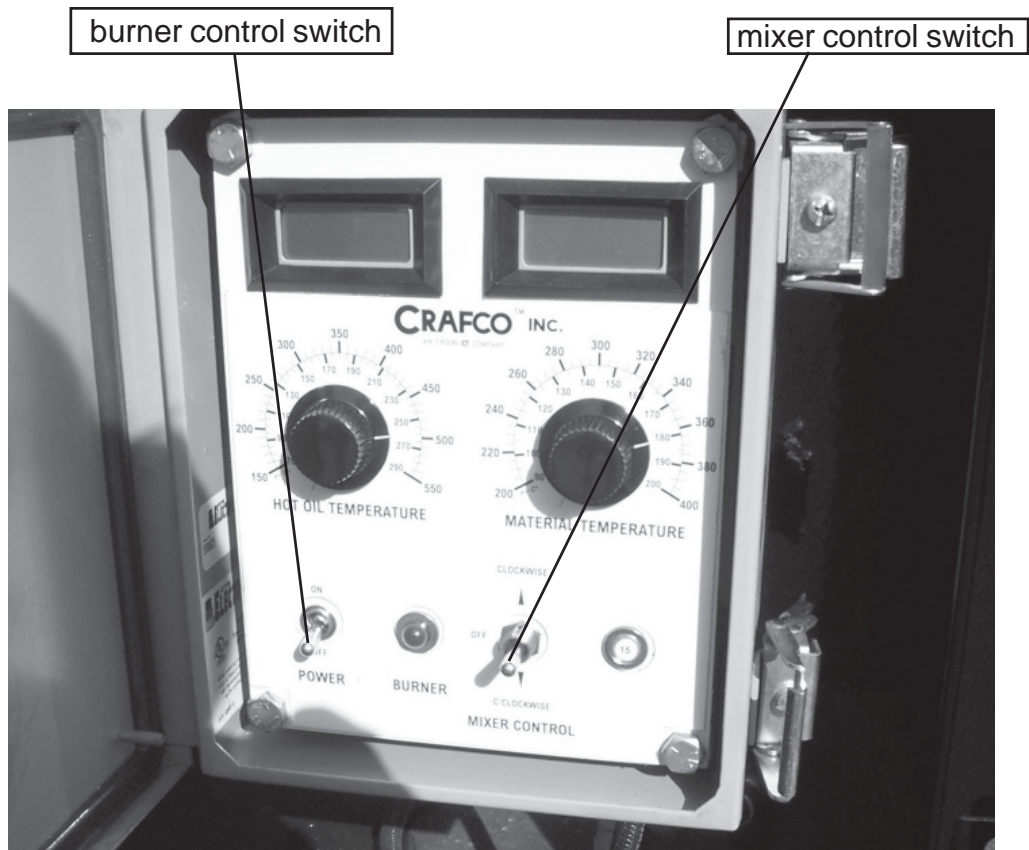

Fig. 3
8. Place the mixer control valve switch in the off position (see Fig. 3).